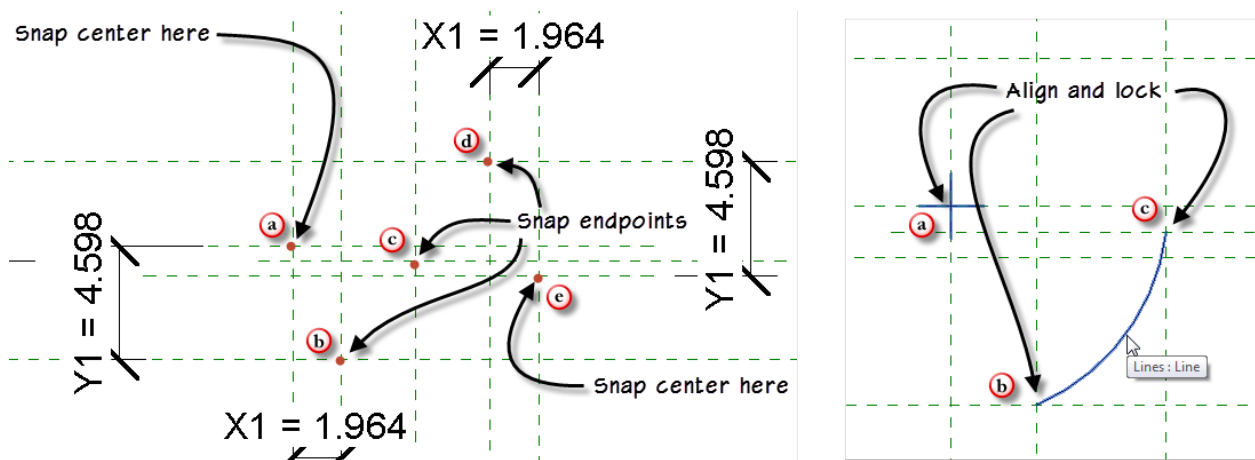

Figure 43—Draw the curves
8. Snap the one endpoint to the intersection of the Center (Front/Back) and Center (Left/Right) reference planes and the other to the intersection at X Mid and Y Mid (see the small dots at locations **a**, **b** and **c** on the left side of Figure 43).
10. Align and lock the center point and each arc endpoint to the reference planes in both directions (6 alignments total) (see the right side of Figure 43).